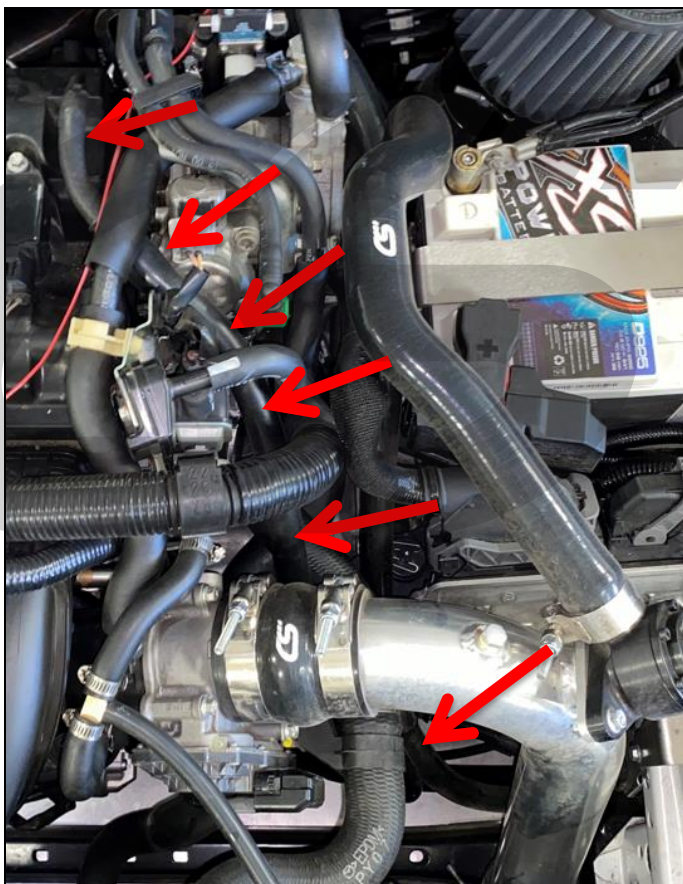

Figure 3e
- j) **Install supplied hose onto the reducer fitting coming off the valve cover.** Route down towards the T fitting installed earlier. Approximate routing with turbo kit shown in **Figure 3e**.